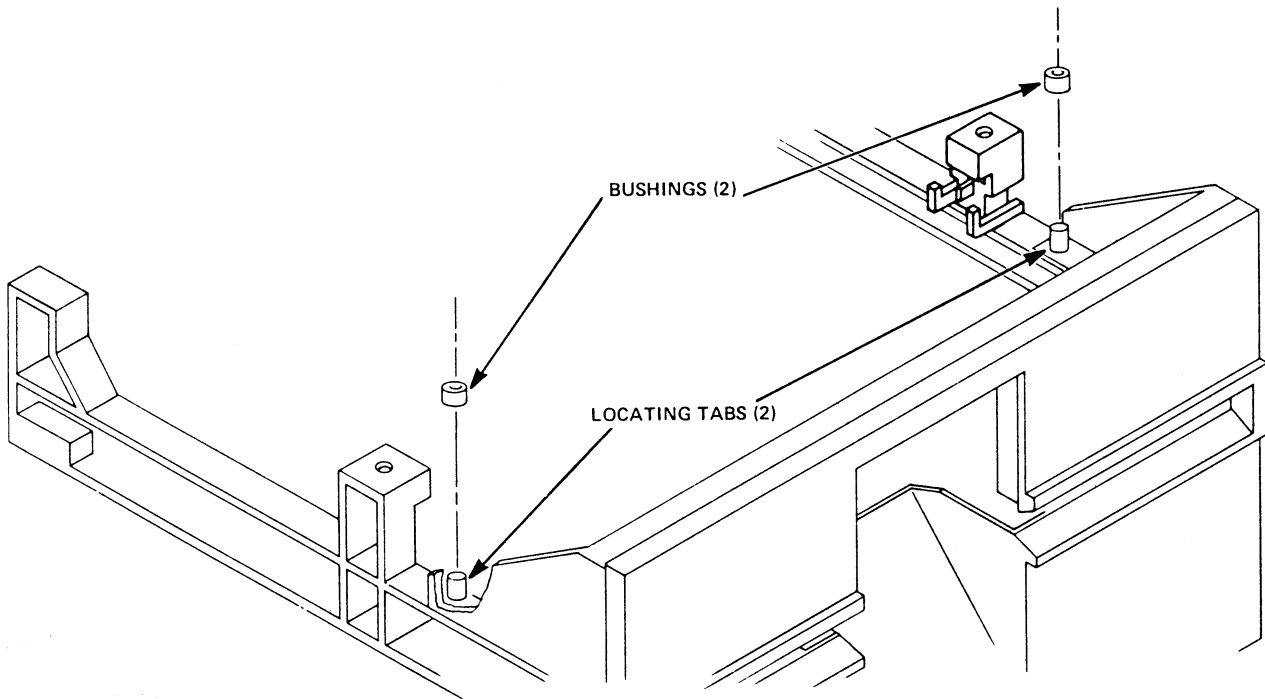

Figure 5-11
5.7.2 Using a pair of needle nose pliers, remove the two (2) bushings located on the right-hand and the left-hand top sides of the front panel by pulling up on them while using a twisting motion (see Figure 5-11).
- 5.7.7 Taking the new front panel, place the front door in its tracks on the front panel, and place the new front panel on the rail pins (see Figure 5-11).
- 5.7.11 Install two (2) new bushings on the right-hand and the left-hand sides of the front panel (see Figure 5-11).